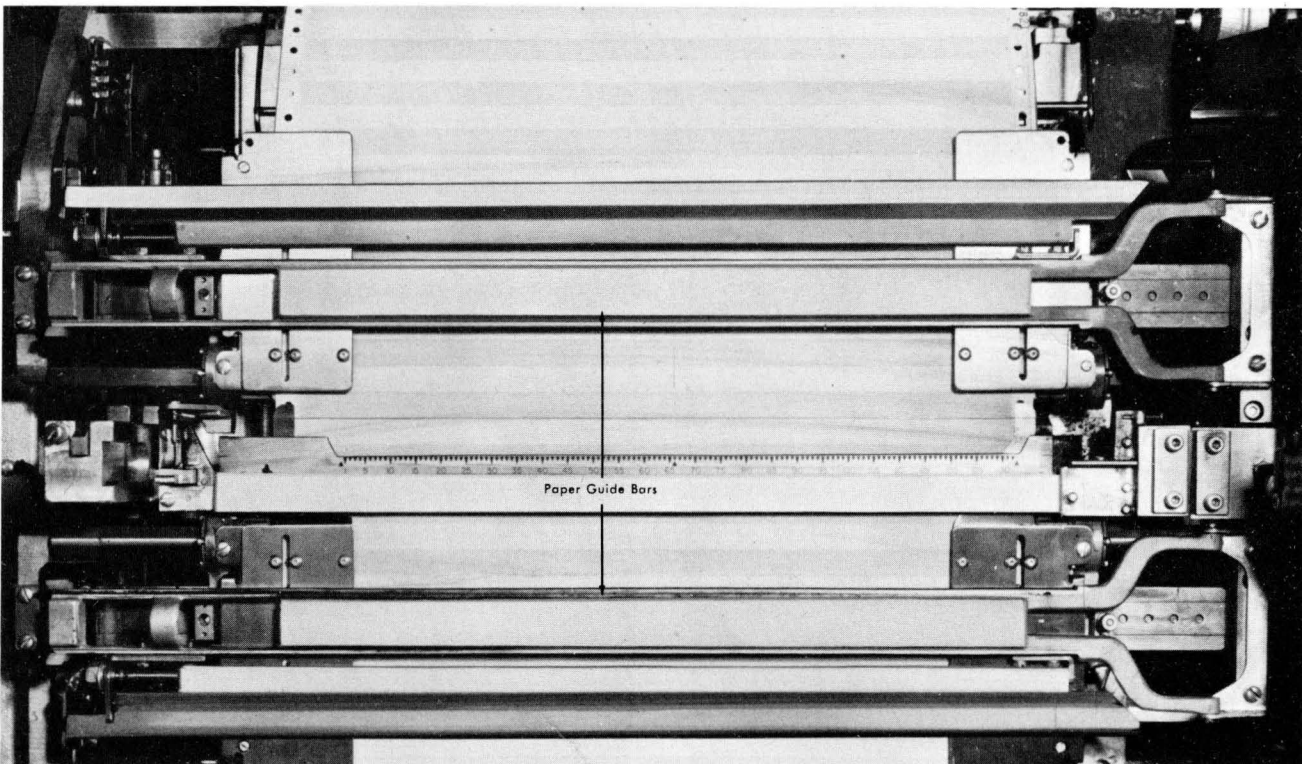

Figure 33. Paper Guide Bars
12. Return the upper and lower paper guide bars to the closed positions (Figure 33).